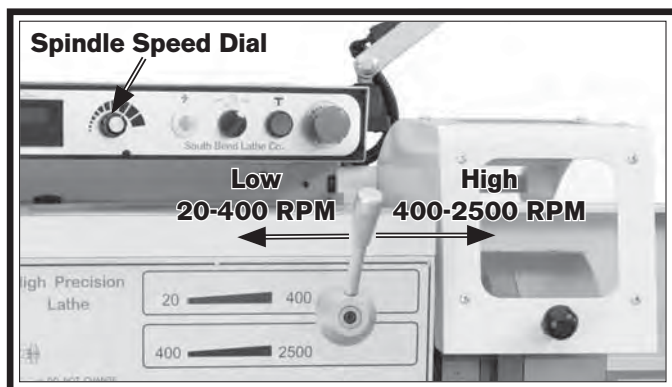

Figure 18. Spindle speed controls.
6. Turn the spindle speed dial (Figure 18) all the way counterclockwise (lowest speed) to avoid possibility of a high-speed start.
7. Move the spindle speed range lever (Figure 18) to the left so the headstock is set in the low range (20-400 RPM). (You may need to slightly rotate the chuck by hand to engage the lever.)